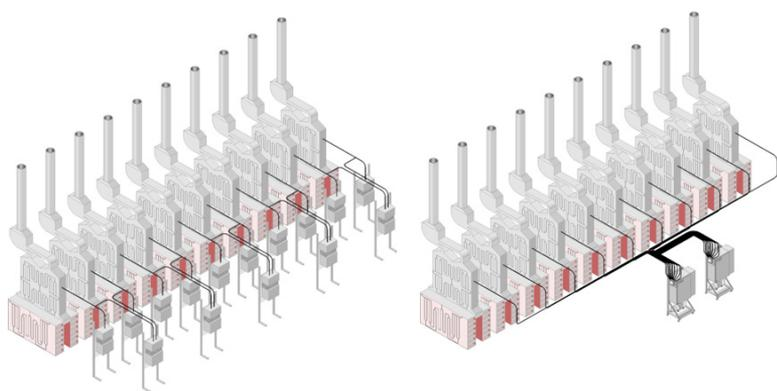

Figure 1.
There are two alternative methods that a typical ethylene plant can use for effluent gas analysis: process gas chromatography (GC) and process mass spectrometry. This application note will discuss the advantages gained by using the Thermo Scientific™ Prima™ PRO Process Mass Spectrometer for effluent gas analysis. Two benefits achieved can clearly be seen in Figure 1: the reduction of both the footprint and the maintenance required.